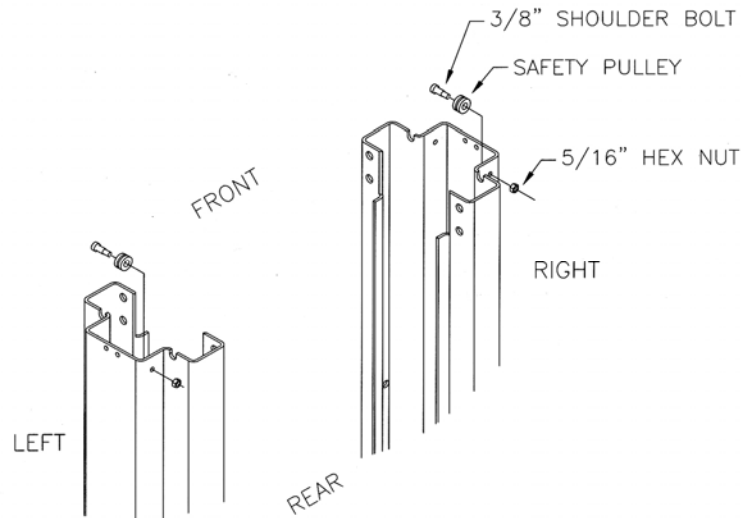

Figure 5 - Safety Release Pulley Installation
1. Install the safety pulley on each tower as shown in Figure 5.